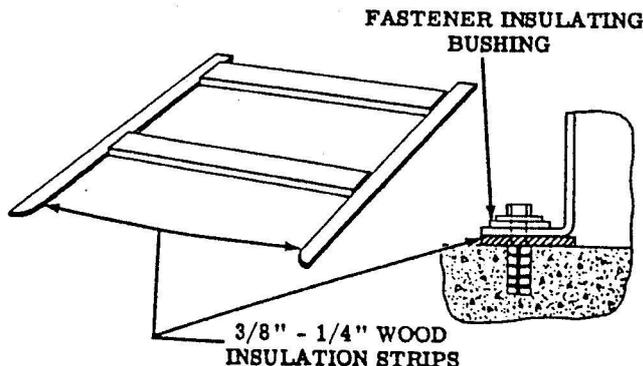

Figure 1. Insulation of PBX Frame From Concrete Floors
2.04 Wood insulating strips shall be used on concrete or terrazzo floors. These strips are not furnished with the PBX but shall be made up locally. These usually consist of 3/8" or 1/4" plywood in 1-1/2" or 2" width strips. See Fig. 1. Insulating bushings are supplied with the PBX and should be used when fastening to other than wood floors. When lead covered cable is used, care must be taken that the sheath does not touch the switchboard framework. Two layers of tape should be used to insulate the cable sheath from the metal framework. The cable may enter the PBX through the entrance hole provided or the floor, as re-